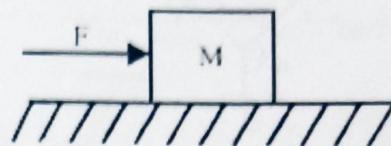

Fig 2.15
- 1) Draw a Free Body Diagram for a book is at rest on a tabletop shown in fig 2.15.